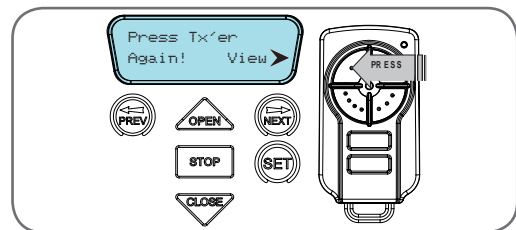

Fig 13.4
- Press the same transmitter button again as prompted by the display (Fig. 13.4).